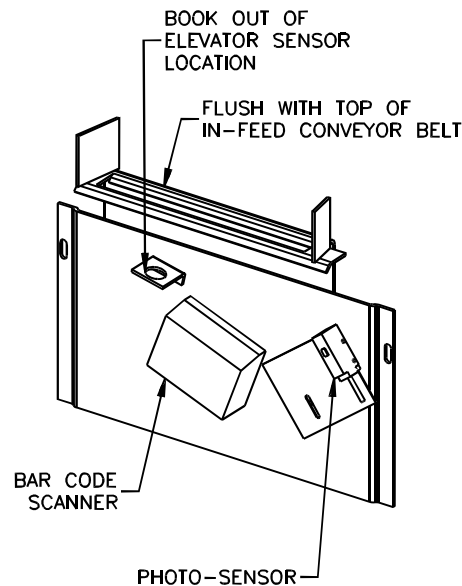

Figure 2-7. Scanner Bracket Installation
2. Remove the lower front door of the trimmer and locate the loose photoelectric sensor. Remove the nuts from the sensor and push the sensor through the split cap bushing in the left side of the trimmer's base. Attach the sensor as shown in Figure 2-7. Bar code scanner and additional photo-sensor are no longer available.